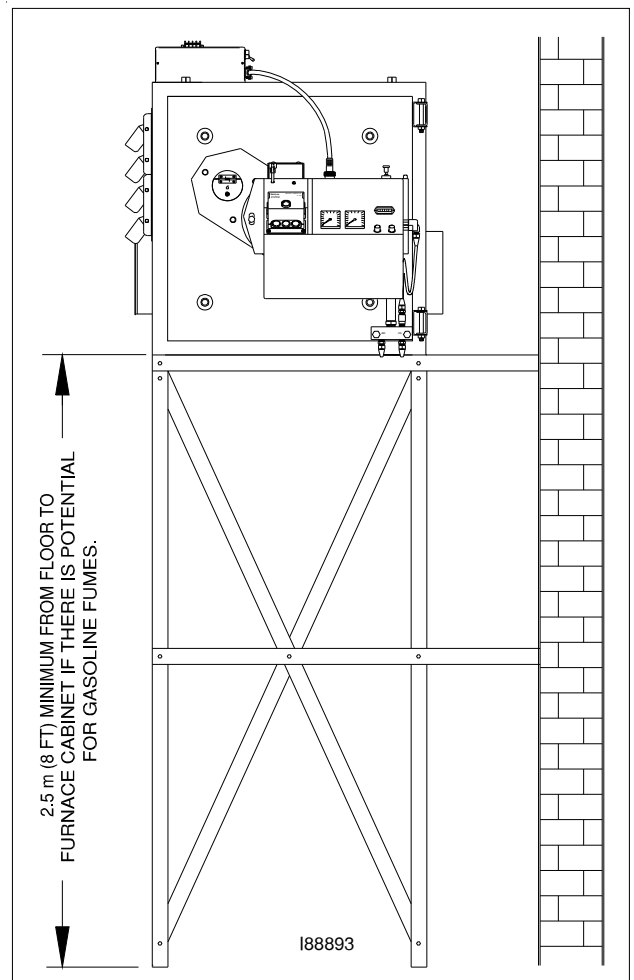

Figure 4D - CB-1500 Furnace Installed on a Raised Platform (CB-2500 is similar)
1. Refer to Figure 4D, and follow the instructions as provided in the diagram.